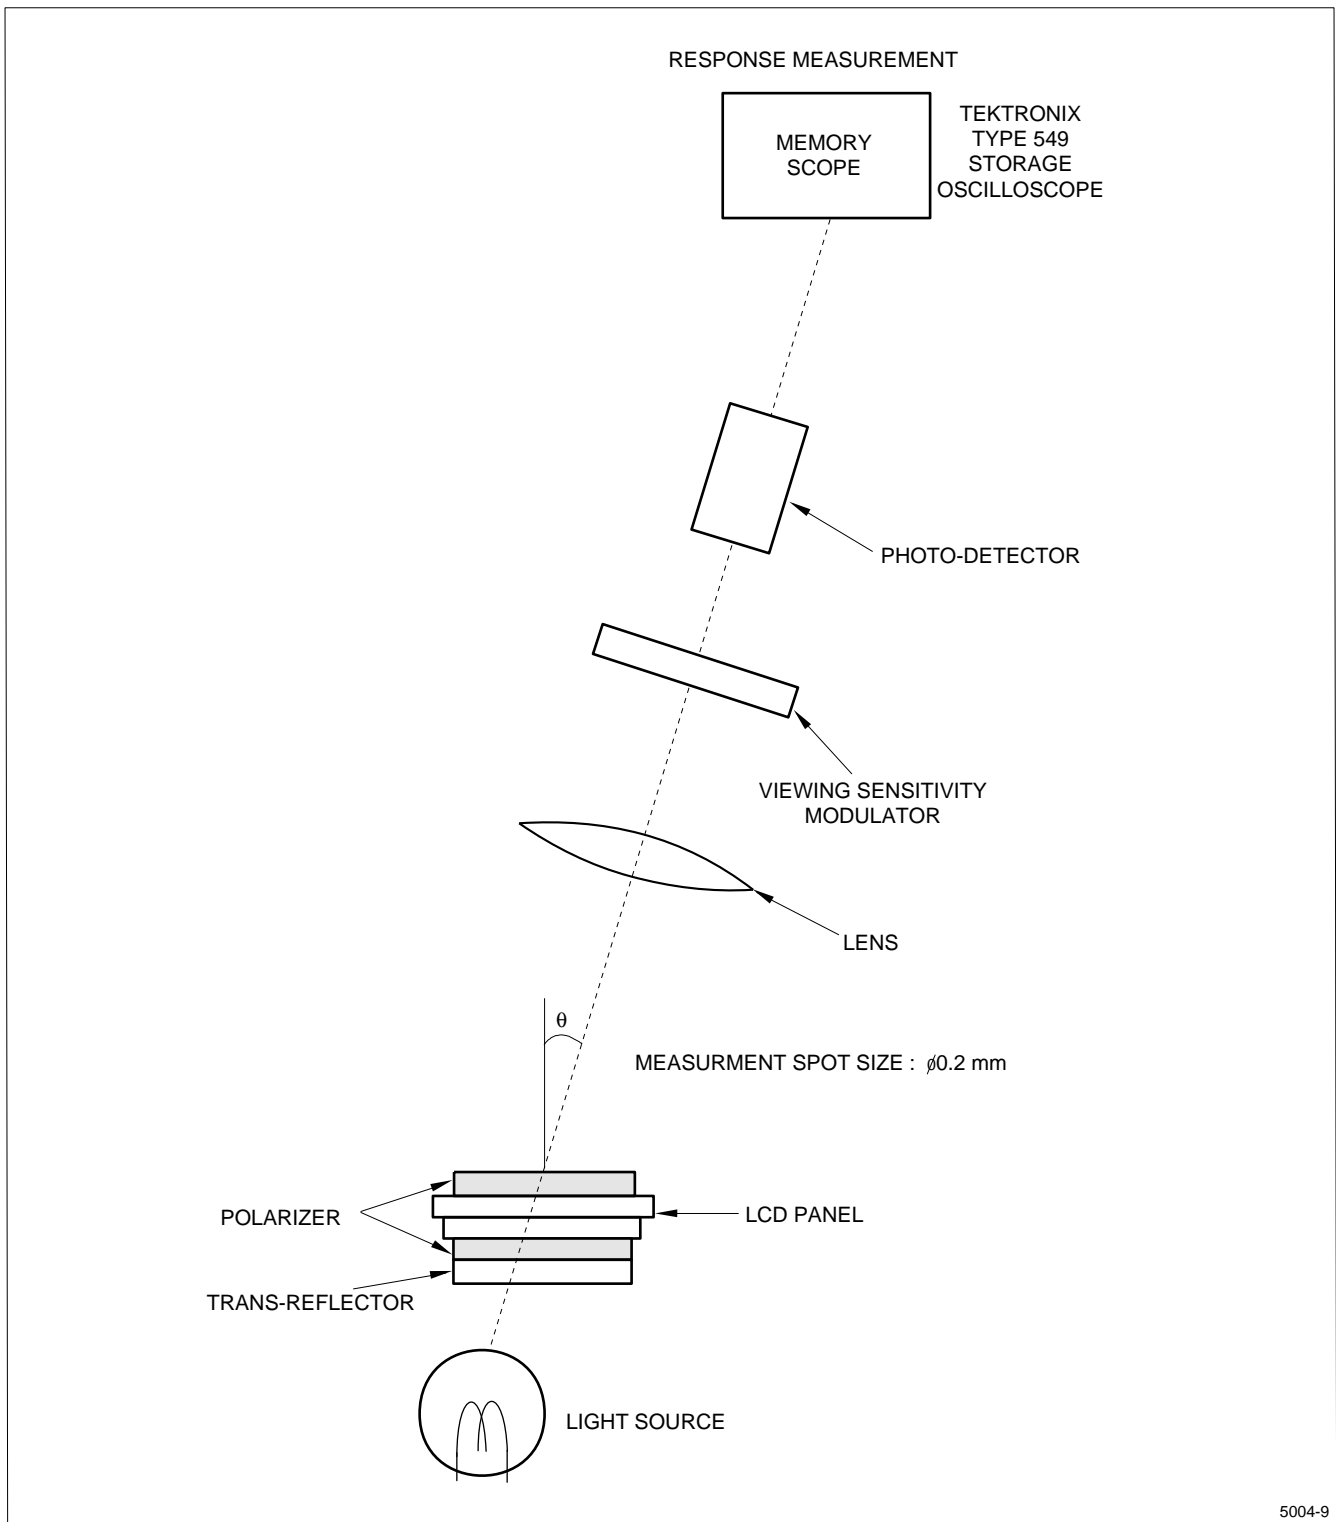

Figure 10a. Optical Characteristics Test Method II (Transmissive Mode)
3. The response characteristics of the photodetector output are measured as shown in Figures 10a and 10b, assuming that input signals are applied to select and deselect the dots to be measured, in the optical characteristics test method shown in Figure 11.